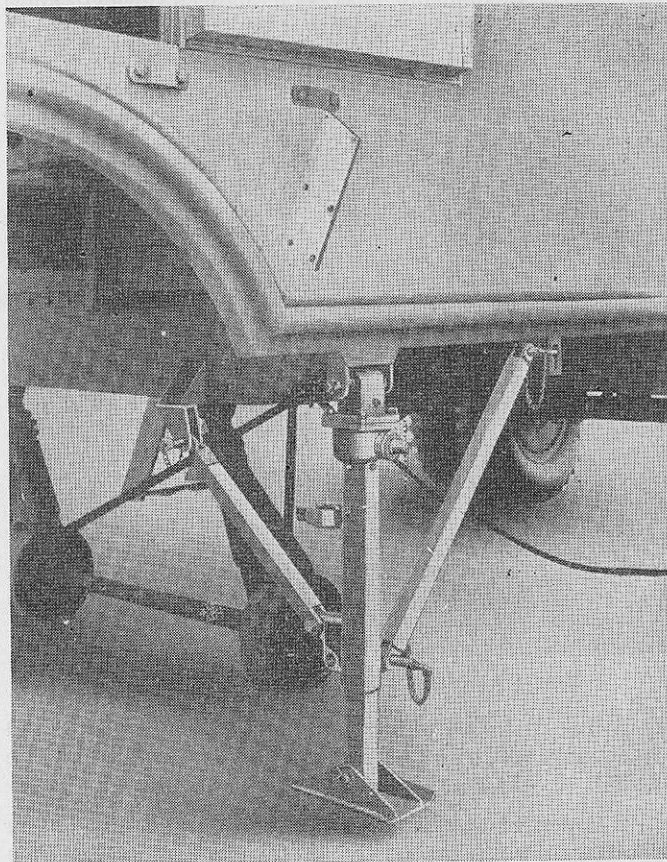

FIGURE 16.—Leveling jack.
i. Swing the leveling jacks into the DOWN position and attach inner and side braces with the gravity latch pins. (See fig. 16.)